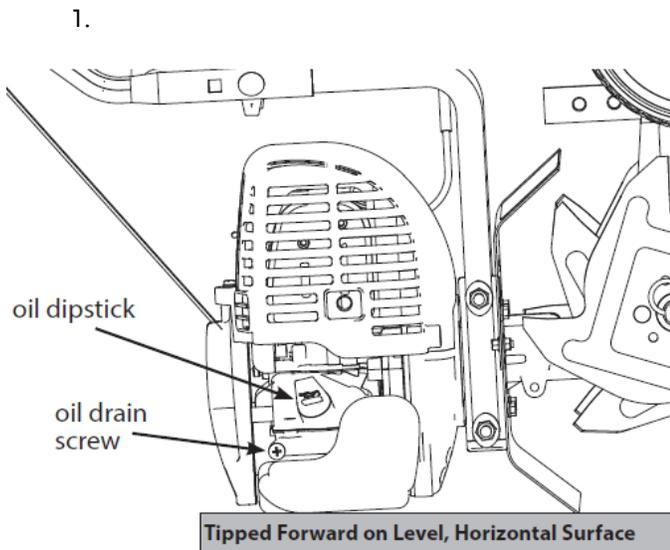

Figure 4
- Engine must be tipped forward with gas tank down when checking oil level or filling with oil (Figure 4). Failure to do so can result in overfilling the engine with oil which will impair the engine's performance.
- Be sure the engine is located on a level surface before checking or refilling oil. Proper position for checking oil level or refilling oil is face down, with the gas tank of the Tiller/Cultivator down on a horizontal surface (Figure 4).